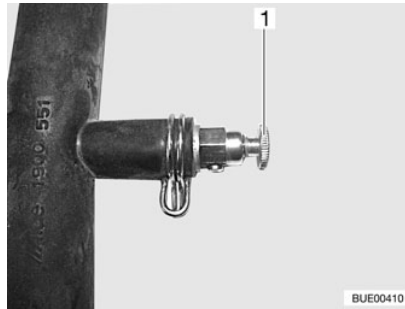

Fig. 93 Bleeding valve of hot-water heater
- Open bleeding valve (Fig. 93,1) and leave open until no more air escapes.